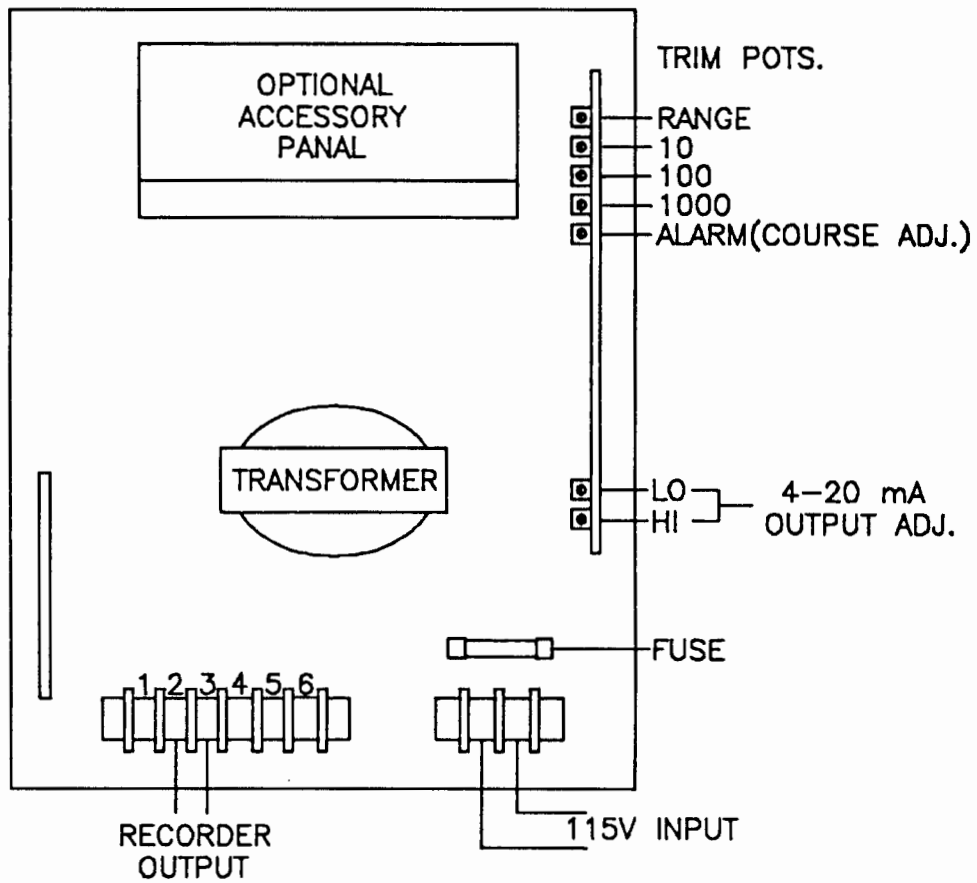

Figure 3
Range, 10, 100, 1000 (See Figure 3)
The alarm circuit is used in order to provide an audible alarm for unattended on-stream monitoring. On the DRT-200, the alarm circuits should be connected to terminals 4, 5, and 6 (see Figure 3) as follows:
The DRT-200 recorder connections are made at positions 2 and 3 of the six (6) position terminal strip as shown in Figure 3. The instrument has been factory calibrated to provide a 4-20 mA output at these recorder connections. The output from these two (2) connections can be adjusted to provide an output varying from 0-1 mA to 10-50 mA by adjusting the two (2) trimpots identified as LO and HI on the P.C. board at the right hand side of the enclosure. They are identified as 4-20 mA output adjustment. Outputs for millivolt recorders can also be obtained using a shunt resistor across terminals 2 and 3.